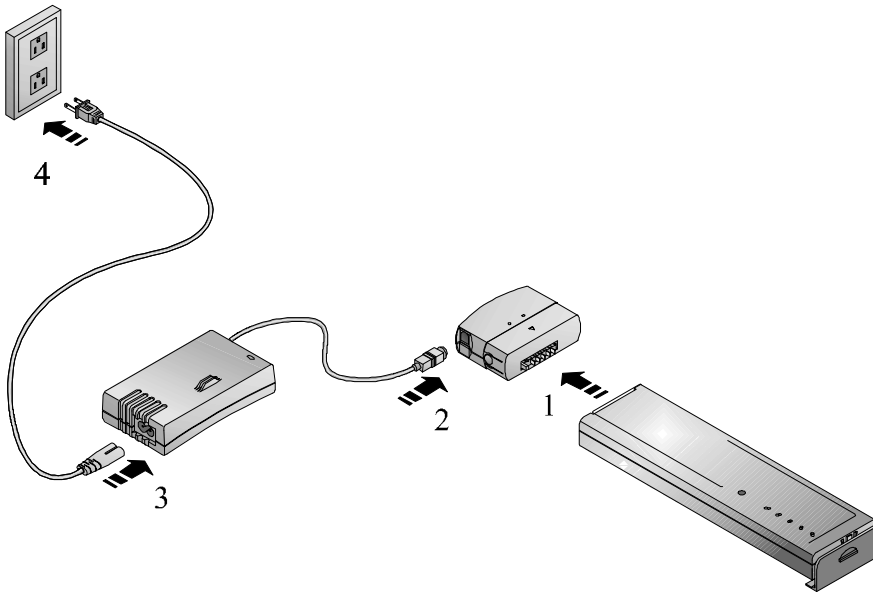

Figure 6-11: Charging a Battery with the External Charger
1. Connect the battery to the External Battery Charger. (Figure 6-11, step 1)
2. Connect the AC Adapter to the External Battery Charger (Figure 6-11, step 2)
3. Then connect the power cord to the AC Adapter. (Figure 6-11, step 3)